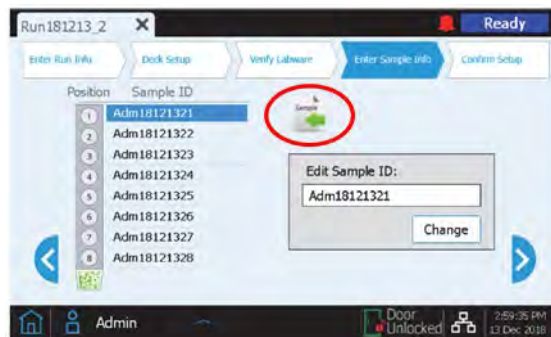

Figure 18. Edit Sample Info screen of the Magnis NGS Prep System, with a circle highlighting the load samples button.
- ◇ When setting up the run, on the *Enter Sample Info* screen, press the load samples button (highlighted with a circle in Figure 18).